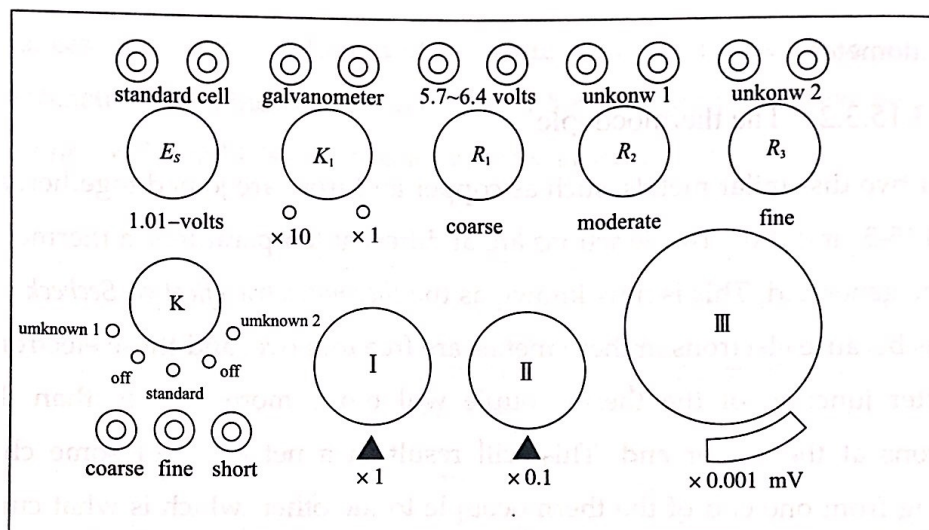

Fig. 3.15-6 Panel of the box potentiometer
- Rotate the switch k to "standard" and set grade "1" for the galvanometer. Push in the "coarse" knob at the lower left corner. if the galvanometer deflects far from zero, adjust R_1 and R_2 (see fig 3.15-6) until the galvanometer deflects little from zero. rotate the "coarse" knob to lock it. Push in the "fine" knob and increase the sensitivity of the galvanometer. Tune R_3 until the galvanometer reads zero. Choose the sensitivity as high as possible so that the pointer of the galvanometer can read zero and doesn't oscillate now, the current in the source circuit is calibrated to 10.000 mA.
- Push in the "coarse" knob. If the galvanometer deflects far from zero, adjust knobs "I" and "II" (see Fig.3.15-6) until the galvanometer deflects little from zero. Rotate the "coarse" knob to lock it. Push in the "fine" knob. Tune knob "III" until the galvanometer reads zero. Read the scales on the knobs "I" "II" and "III" and add them up. The result is the emf produced by the thermocouple at temperature of 35°C.